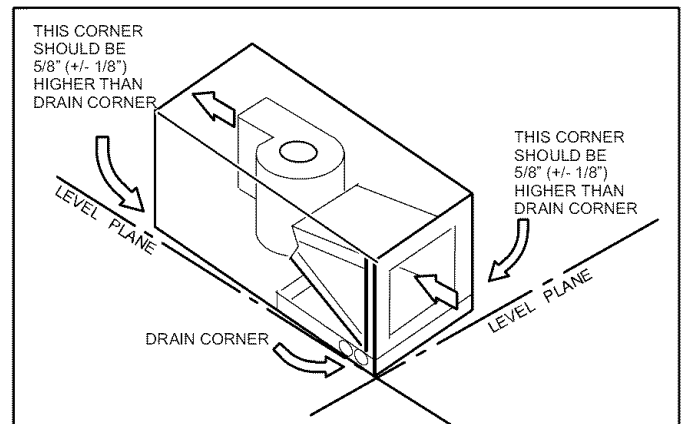

Figure 10. Sloping the Drain
4. Set unit so that it is sloped toward the drain pan end of the unit (see figure 10 on page 7).
Make sure the unit is sloped (similar to the slope shown in figure 10) so that the drain pan will empty completely without water standing in the pan.